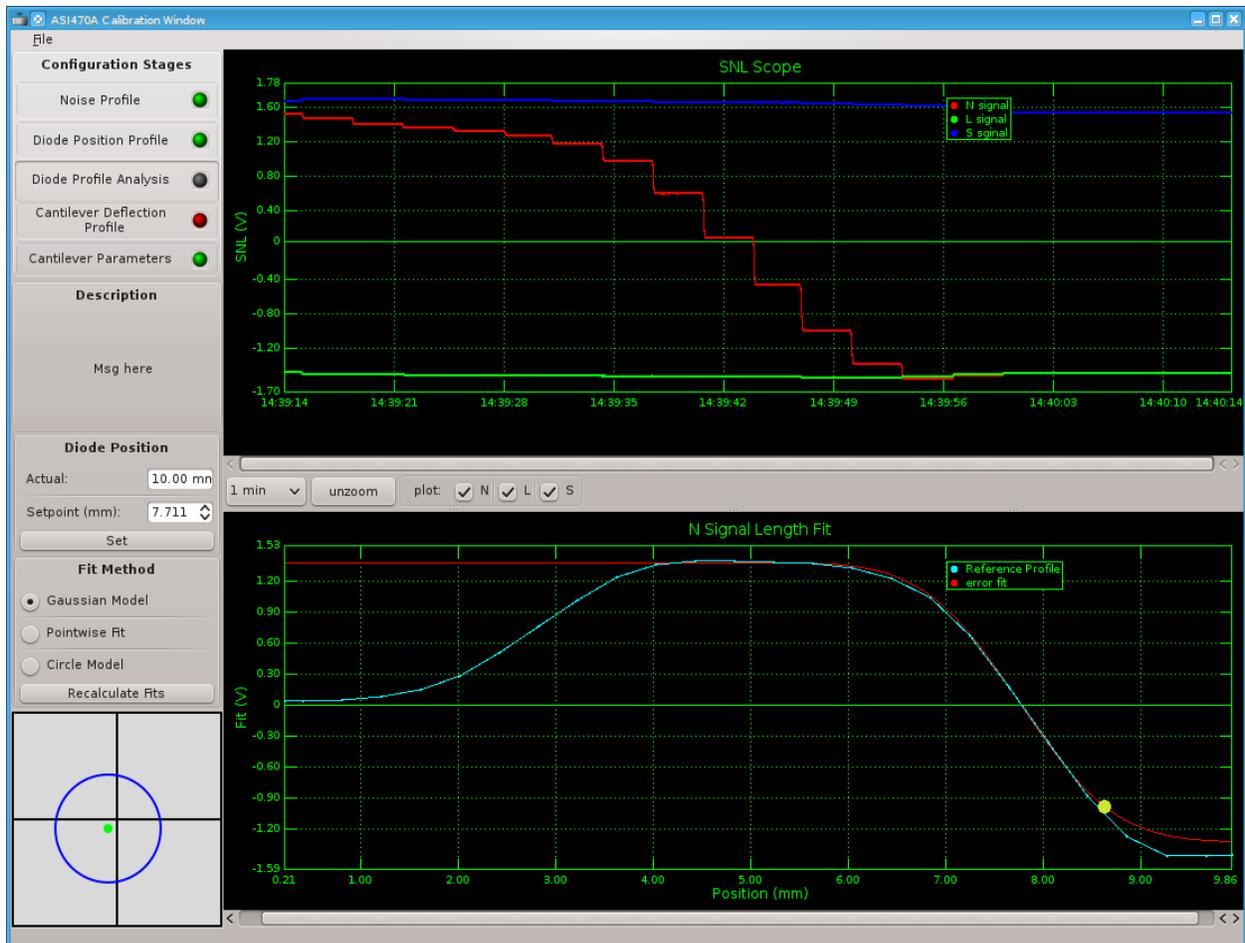

Figure 12 Diode Position Profile Stage of Calibration
5. The Diode Position Profile should be similar to that shown in Figure 12. Note: The Diode Position Profile shows the Diode Profile after automatically subtracting the Noise Profile.
1. After completing the Diode Position Profile, the window should appear as in Figure 12.